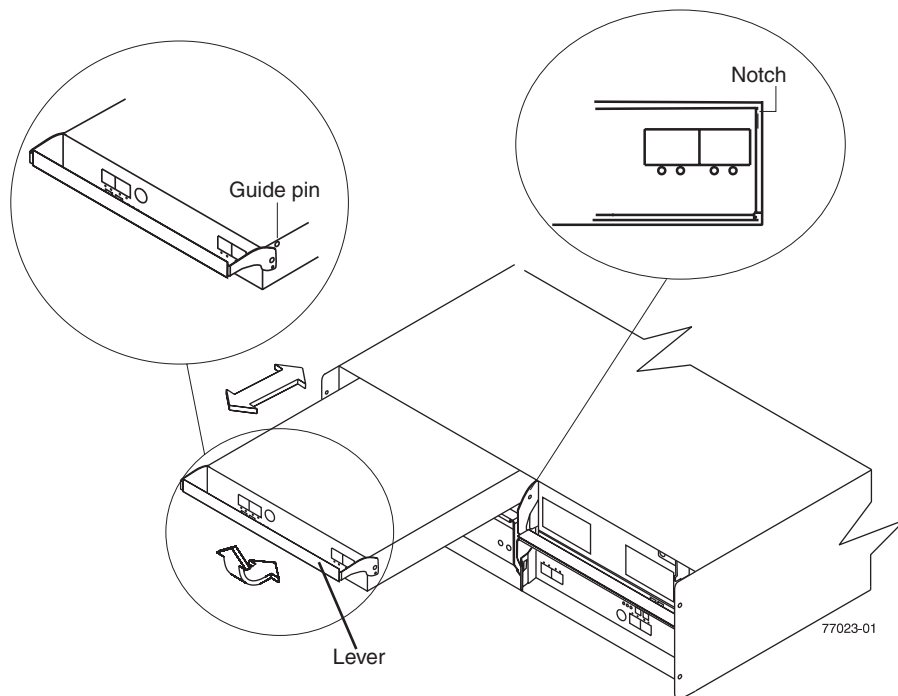

Figure 37. Removing and replacing an Environmental Service Module (ESM)
8. While squeezing the latch, pull the lever open 90° (so that the lever is horizontal). Pull the lever away from the chassis to remove the ESM from the EXP520 midplane, as shown in Figure 37.
- b. Slowly pull the lever away from the EXP520 chassis to remove the ESM from the ESM bay, as shown in Figure 37 on page 84. (Remove the ESM from the chassis and place it on an electrostatic discharge (ESD) protected surface.)